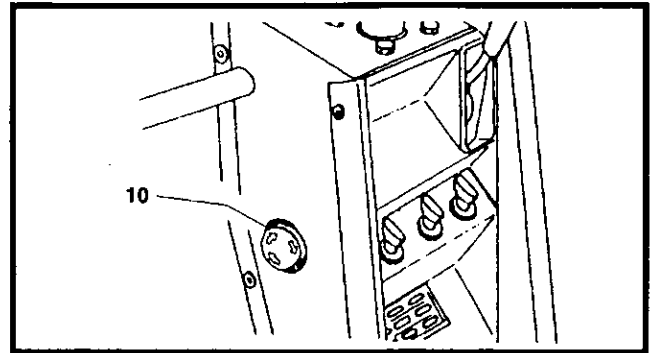

Figure 5-13 Parking Brake Switch
1. With the engine running, press in the parking brake control switch (10, Figure 5-13) to apply brakes.